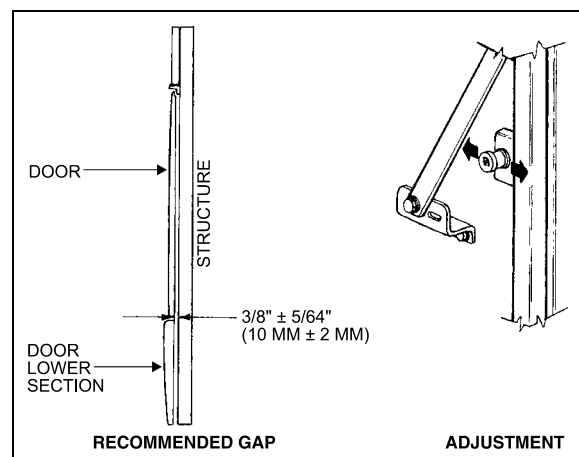

FIGURE 65: BAGGAGE COMPARTMENT DOOR 18070
7. With door shut, it should have a gap of $3/8'' \pm 5/64''$ (10mm \pm 2mm) between door panel lip (at level of upper edge of lower section) and structural post. If not, move pins horizontally until correct gap is obtained. Fully tighten the pins after adjustment is achieved (Fig. 65).